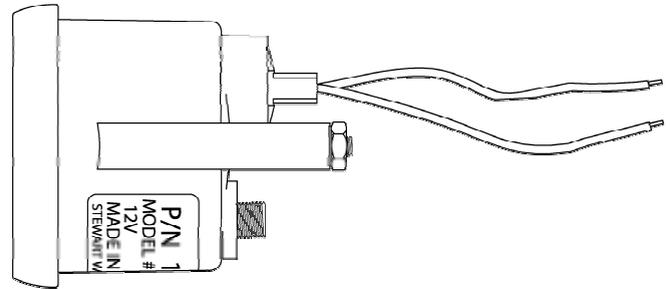

Figure 1
**GAUGE MOUNTING (Figure 1):**